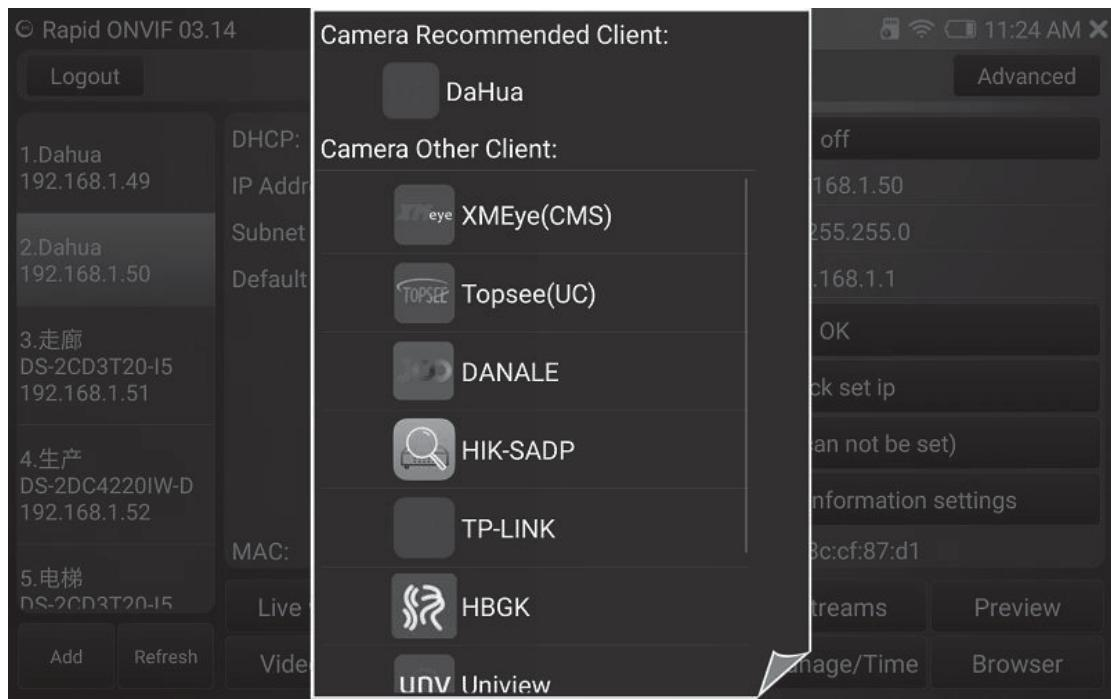

Figure 20
4) For cameras unable to edit IP: in rapid ONVIF App, touch IP Set button to set IP, if it cannot be set, touch ‘More’ button in the middle, it will list out all camera clients and recommend you to use the corresponding client software, touch to enter client and finish setting, as shown in Figure20